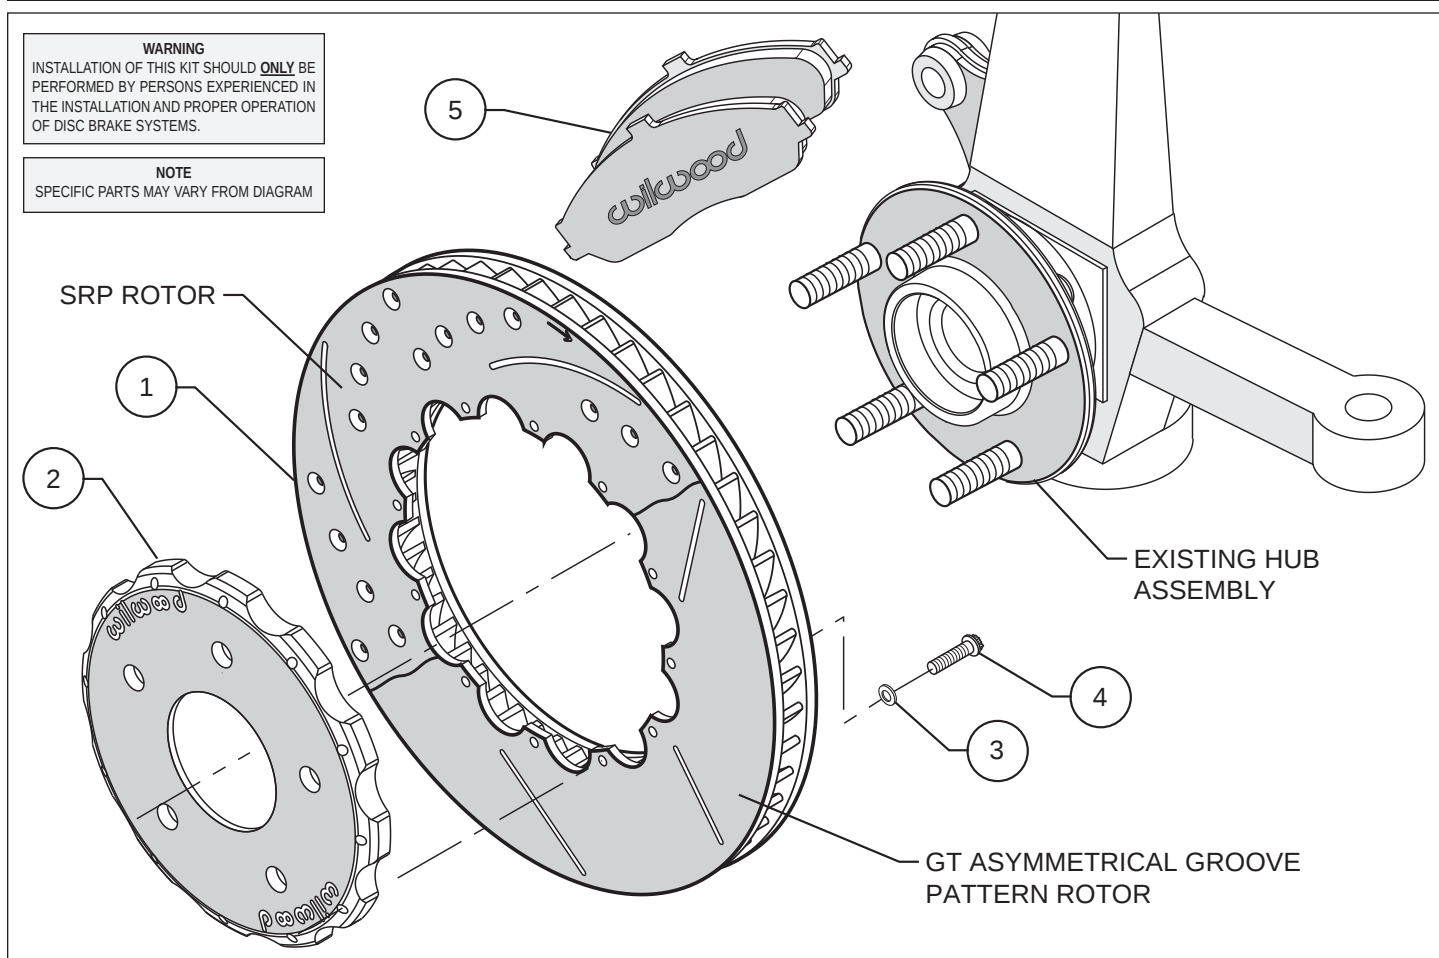
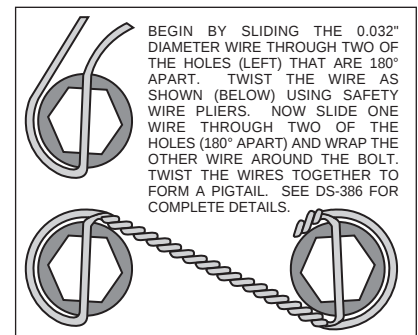
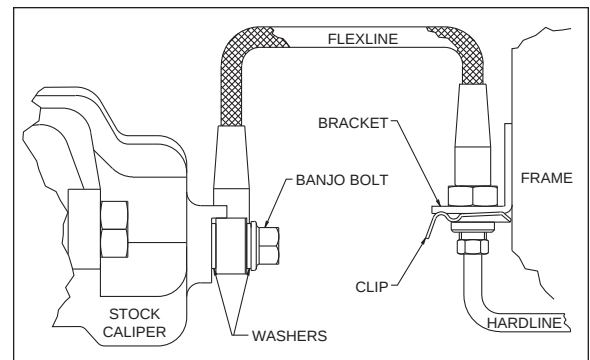

Figure 1. Typical Installation Configuration
Figure 2. Safety Wire Diagram
Figure 3. Brake Line Diagram
- Assemble the rotor (1) to the hat (2) with the bolts (4) and washers (3) provided in the configuration shown in Figure 1. Using an alternating sequence, apply red *Loctite*® 271 to the threads and torque bolts to 155 **in-lb**. For an added measure of security, the bolts may be safety wired using standard 0.032 inch diameter stainless steel safety wire as shown in Figure 2. Please refer to Wilwood's data sheet DS-386 (available at www.wilwood.com/Pdf/DataSheets/ds386.pdf) for complete safety wire installation instructions.
- Align the hole pattern on the hat (2) with the stud pattern on the hub. Slide the hat and rotor assembly (1 and 2) onto the hub. Check to be sure the hat seats squarely against the hub face. The hub must be free from any rust, debris, casting burrs, machining irregularities, etc. Use several lug nuts to hold the rotor and hat firmly against the hub face.
- Install new Wilwood brake pads (5) into stock caliper bracket.
- Install Wilwood's stainless steel braided flexline hose kit (6), see Figure 3. **NOTE:** OEM rubber brake hoses generally cannot be adapted to Wilwood calipers. The caliper inlet fitting is a 1/8-27 NPT. The preferred method is to use steel adapter fittings at the caliper, either straight, 45 or 90 degree and enough steel braided line to allow for full suspension travel and turning radius, lock to lock. **Carefully route lines to prevent contact with moving suspension, brake or wheel components.** Wilwood hose kits are designed for use in many different vehicle applications and it is the installer's responsibility to properly route and ensure adequate clearance and retention for brake hose components. Wilwood offers a hose kit, P/N 220-8021, which includes hoses, fittings, etc., all in one package for this application.
- Using new mounting hardware supplied in the kit (6), bolt flexline to back of stock caliper, see Figure 3. Torque banjo bolt to specifications included with the flexline kit (DS-573).